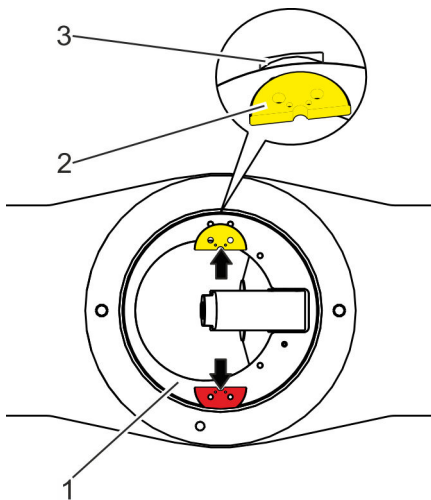
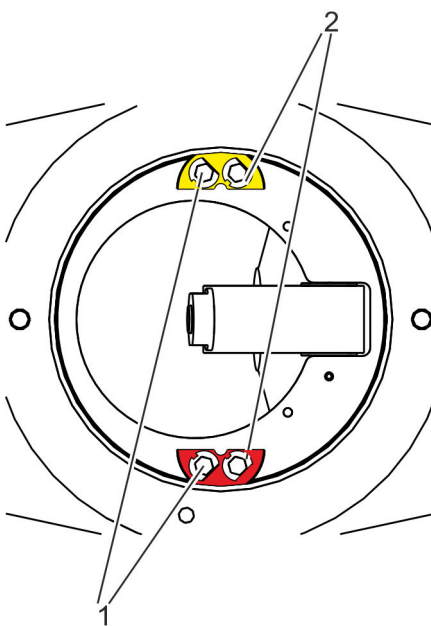

Fig. 18: Mounting the retaining washers
Fig. 19: Fastening the retaining ring
3. ➔ Place the retaining washers (Fig. 18/2) on the retaining ring (Fig. 18/1) and push into the grooves (Fig. 18/3) in the body.
4. ➔ Fasten the retaining washers (Fig. 18/2) with washers (Fig. 19/2) and screws (Fig. 19/1) on the retaining ring.
5. ➔ Tighten the screws (Fig. 19/1) with the prescribed tightening torque.
6. ➔ Bend the washers (Fig. 19/2) on one side.
- ⇒ The screws (Fig. 19/1) cannot be removed.